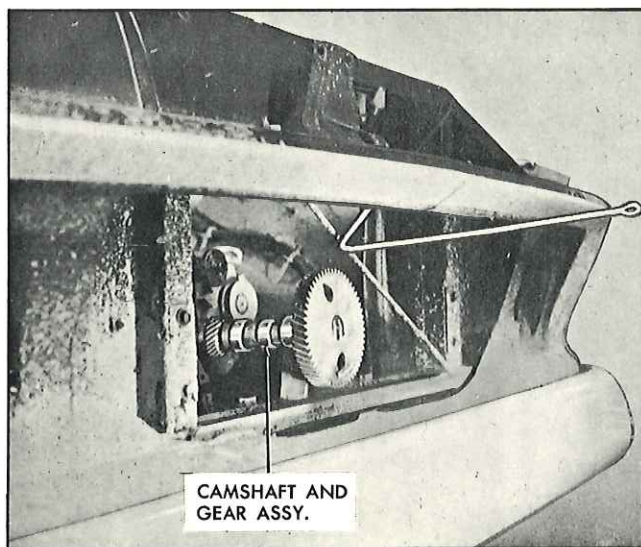

Fig. 12—Removing Camshaft on Light Duty Trucks
22. Center punch and drill out rivet in lower right end of radiator tie rod. Bend radiator tie rod as shown in Figure 12